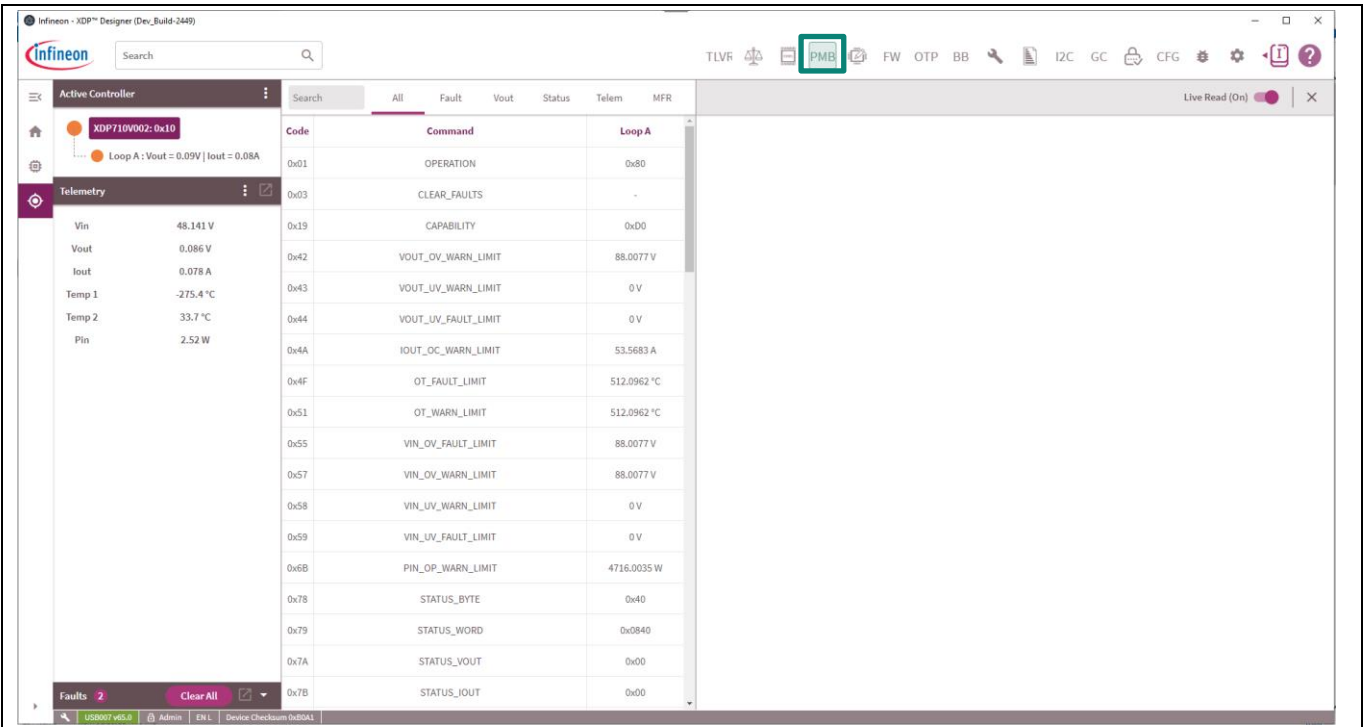

Figure 23 XDP™ Designer displaying all the PMBus registers of the connected XDP710-002
- To see the register values currently stored on the device; click **PMB** button to see all the PMBus registers and the stored values in it, as shown in Figure 23.